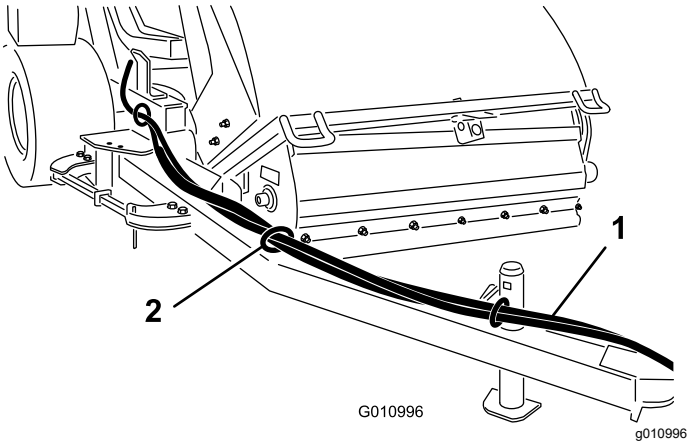

Figure 11
1. Route the hydraulic hoses and wire harness through the hose guides to the front of the hitch tongue (Figure 11).